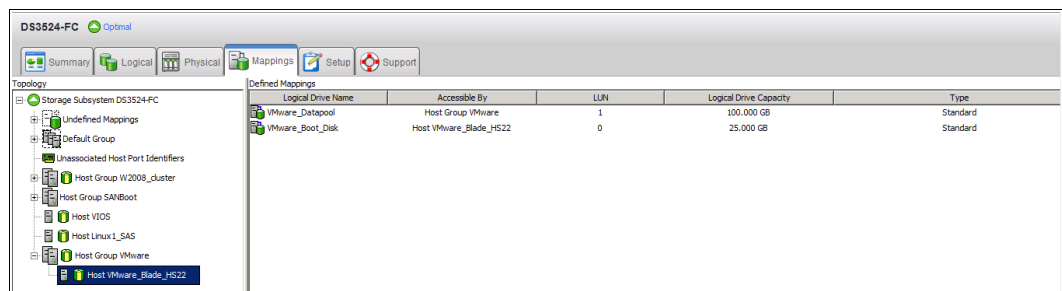

Figure 22-3 LUN Mapping for VMware installation
4. LUN mapping: Map the LUN that you created in number 2 to the host partition you created in the preceding step. Figure 22-3 shows an example of a valid LUN mapping for installation purposes.